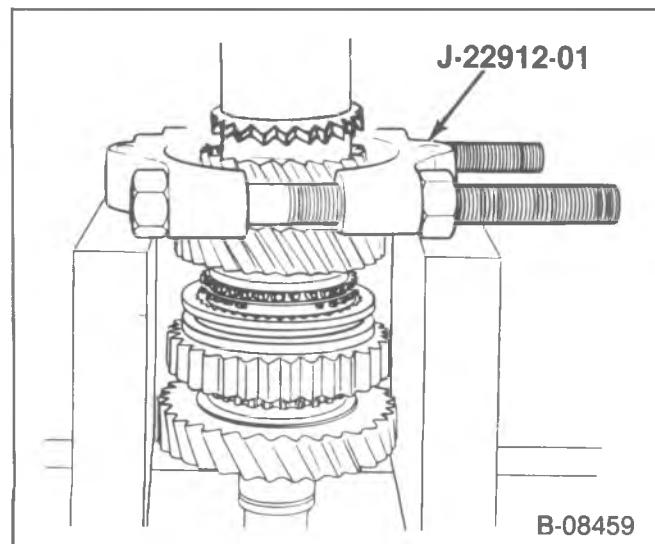

Figure 128—Removing the 5th Speed Driven Gear
- 3. Remove the snap ring and the 2nd speed gear thrust washer (666).
- 4. Remove the 2nd speed gear (667) and blocker ring.
- 5. Press the mainshaft through the 5th speed driven gear (679) using J-22912-01, (figure 128), (5 speed only).
- 6. Mainshaft rear bearing (678).
- It may be necessary to press the mainshaft through the bearing using J-22912-01, (figure 128).